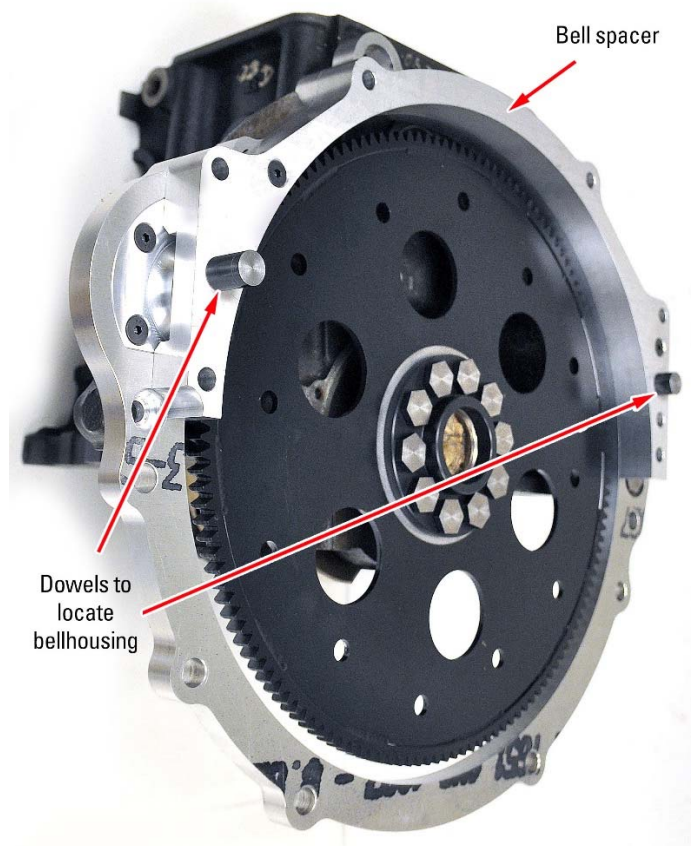
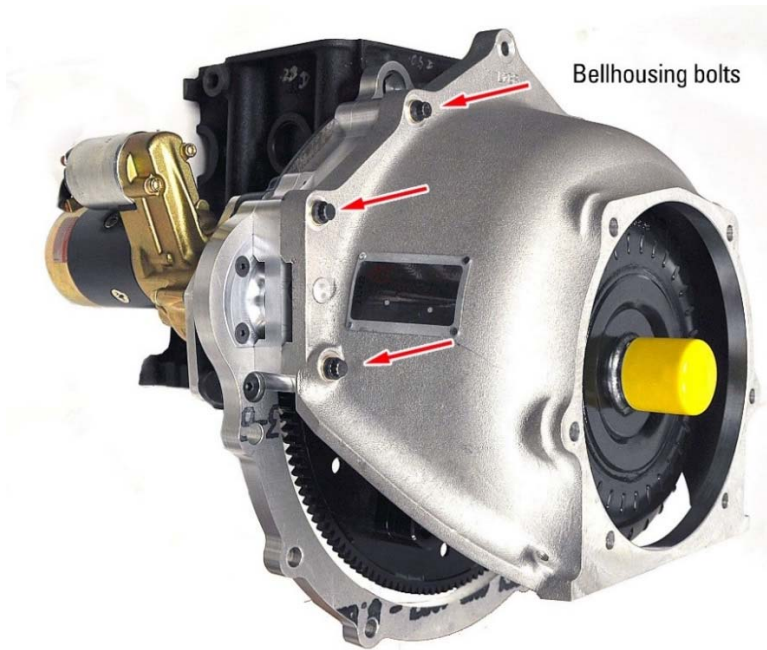

Figure 5: Bell Spacer installed on Adapter Plate
Figure 6: Complete assembly
Step 6: Slide the Bell Spacer (#9) on over the dowel pins that are pressed into the Adapter Plate and secure it in place using the two (2) Bell Spacer bolts (#10). A properly installed Bell Spacer can be seen in Figure 5 below.
Step 7: The transmission locates via the dowel pins pressed into the Bell Spacer (see Figure 5). After installing the Torque Converter (#14) in the transmission, slide the Bellhousing (#11) over the dowel pins - the pilot on the Torque Converter will locate inside the Crankshaft Adapter. Secure the transmission to the engine using the long Bellhousing Bolts (#12) – long bolts include five (5) 2.500" long and one (1) 2.750" long counterbore bolts. See Figure 6 below for completed assembly. Note: Torque Converter pull-out should measure .125" to .185"